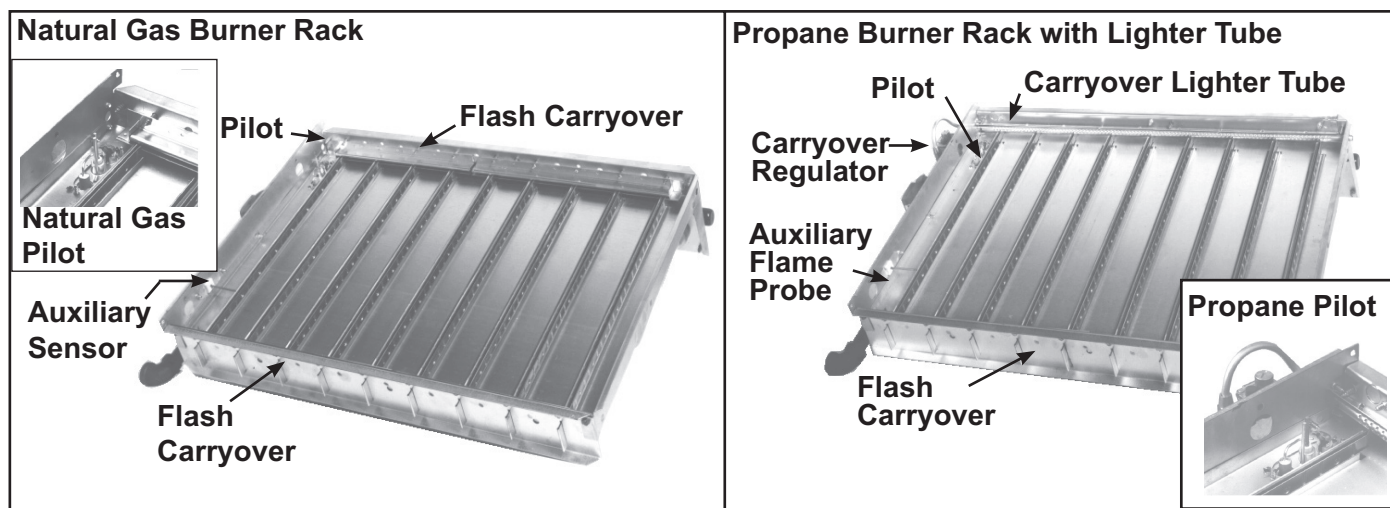

Figure 29. Typical Burner Rack with Pilot
- Typical natural gas and propane gas burner racks are shown in Figure 29.